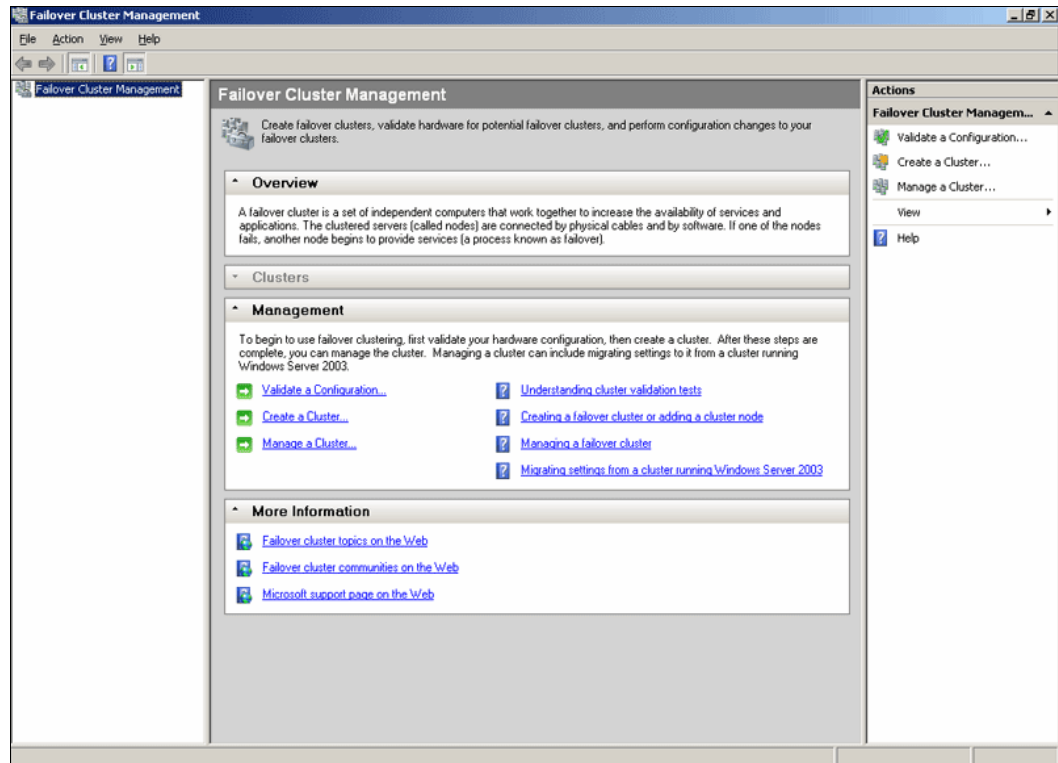

Figure 19-14 Validate a Configuration
2. Confirm that **Failover Cluster Management** is selected and then, in the center pane under **Management**, click **Validate a Configuration** as shown in Figure 19-14 on page 568 and click **Next** to continue.